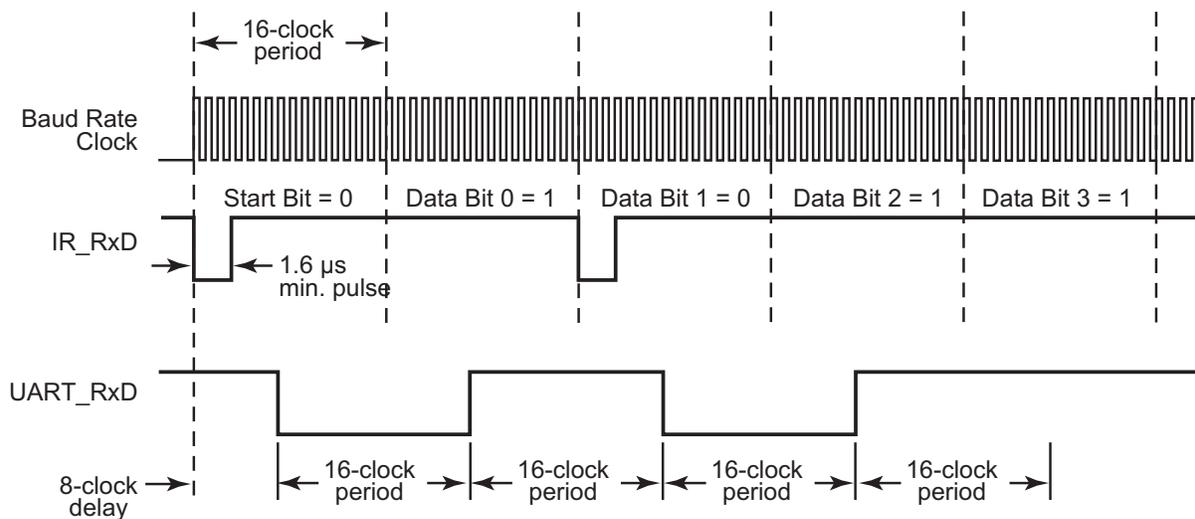

Figure 26. Infrared Data Reception
uses half duplex communication therefore the UART should not be allowed to transmit while the receiver decoder is enabled. The UART Baud Rate Clock is used by the infrared encoder/decoder to generate the demodulated signal (RxD) that drives the UART. Each UART bit is 16-clocks wide. If the data to be received is a logical 1 (High), the IR\_RXD signal remains High (1) for the full 16-clock period. If the data to be received is a logical 0, a 3-clock Low (0) pulse is output following a 7-clock High (1) period. Following the 3-clock Low pulse, is a 6-clock High pulse to complete the full 16-clock data period. Data transmission is illustrated in Figure 26.